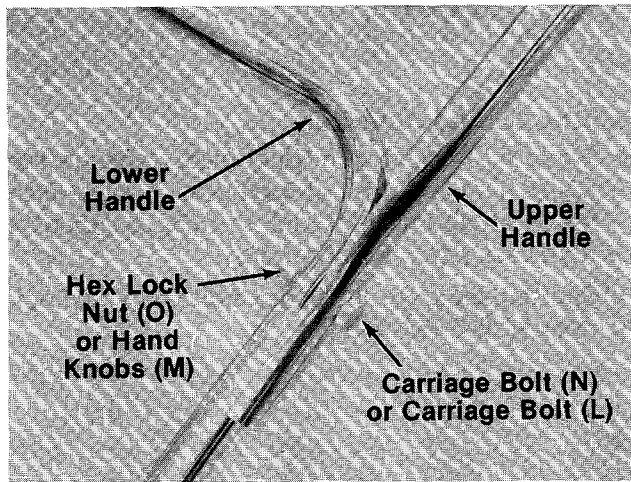

FIGURE 9.
- ← 3. Assemble upper handle to lower handle. Secure with two carriage bolts (L or N) and hex lock nuts (O) or hand knobs (M) as shown in figure 9.